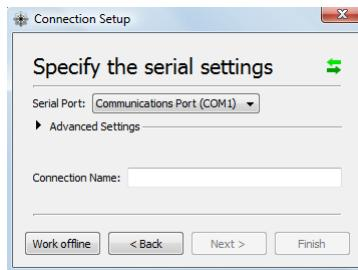
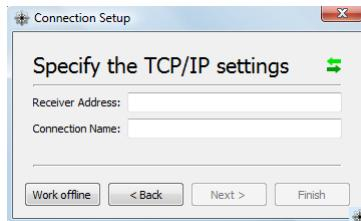
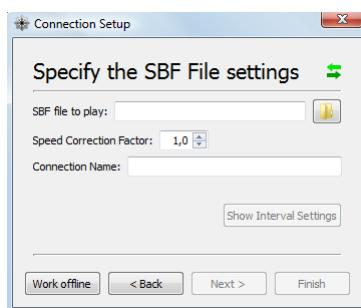

Figure 2-4: Create Serial Connection dialog
Figure 2-5: Create TCP/IP Connection dialog
Figure 2-6: Create SBF File Connection dialog
5. A dialog window (see Figure 2-4 on page 23) to select the communication port will be shown (by default the serial port settings are not shown and are correctly filled in for the default receiver settings). If the Septentrio Receiver is connected to your PC's COM port, change the Serial Port to COM2.
Connecting over a Local Area Network (LAN) or over the Internet using a TCP/IP socket is much simpler than via a serial port. All you need to provide in this case is the hostname or the IP address of your Septentrio Receiver (see Figure 2-5 on page 24).
At first use of RxControl, the user has to create a new serial, TCP/IP or SBF file replay connection and RxControl does not present the Use Last Connection option in the Change Connection dialog. Creating a new serial, TCP/IP or SBF file replay connection is done by selecting the Create New option in the corresponding drop-down list. The Finish button will become grayed out and the Next > will become available indicating that the user has to enter additional information. Pressing the Next > button pops up a Create a new Serial connection (see Figure 2-4), a Create a new TCP/IP connection dialog (see Figure 2-5 on the next page) or a Create a new SBF file connection dialog (see Figure 2-6 on the following page).